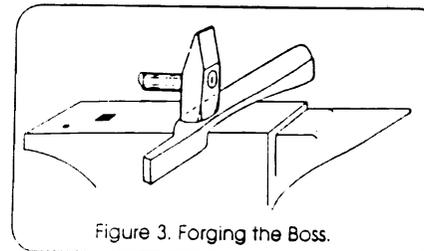

Figure 3. Forging the Boss.
3. Again at a new welding heat extend the jaw portion over the far edge of the anvil and rotate the bar counterclockwise one quarter turn and swing it to the left 30 degrees. Again using half face blows reduce 1" of the stock to half thickness as shown. See Figure 3. This will become the boss, or pivot point. (To form tongs for a left handed blacksmith rotate the bar one quarter turn to the right instead of the left)